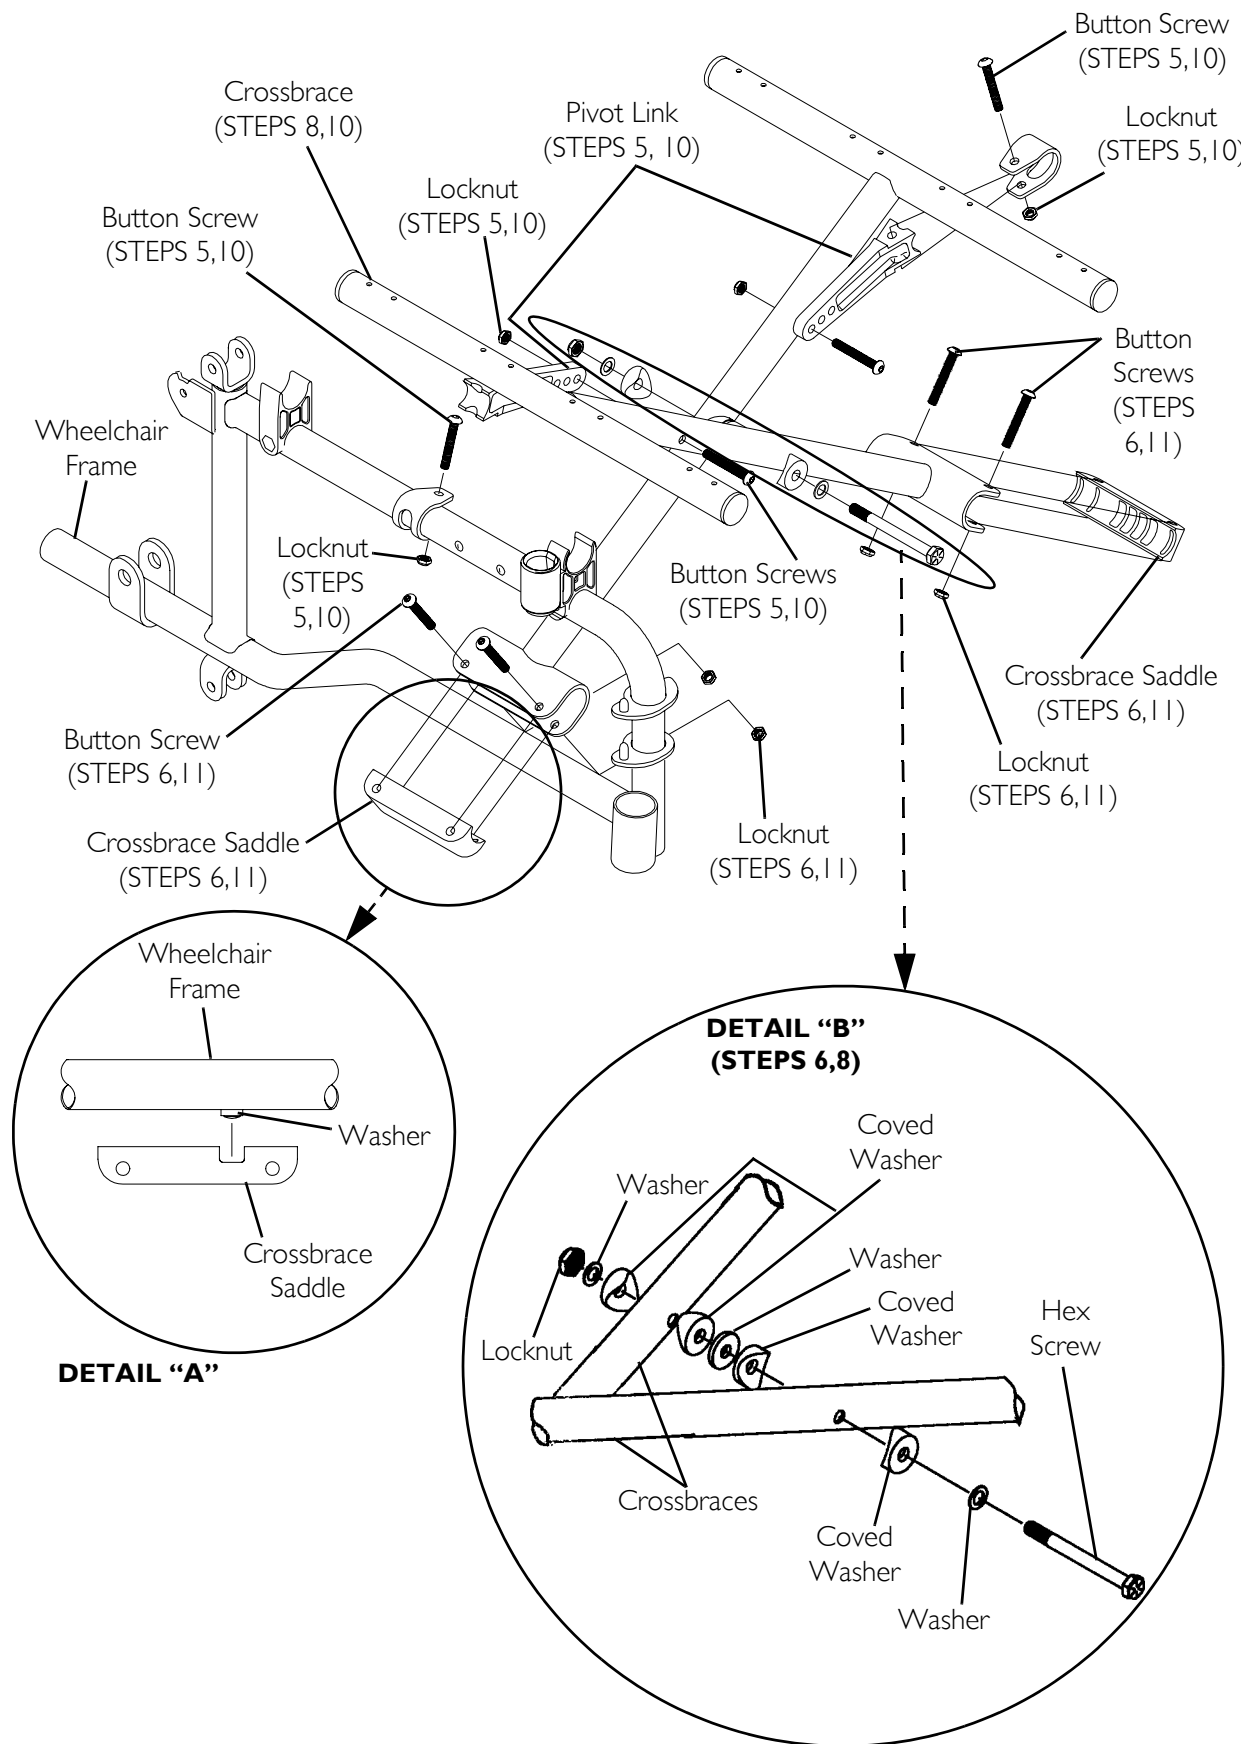

FIGURE 7.10 Adjusting Seat Width
NOTE: For this procedure, refer to FIGURE 7.10 on page 73.
5. Remove the button screws and locknuts that secure the two (2) pivot links to the wheelchair frame and crossbraces.
6. Remove the two (2) button screws, locknuts and crossbrace saddle that secures the bottom of the crossbrace to the wheelchair frame. Repeat for other crossbrace.
7. Remove the hex screw, coved washers, washers and locknut that secure the two (2) crossbraces together. See Detail "B" of FIGURE 7.10.
NOTE: Make note of the orientation of the coved washers, washers and locknut for assembling the new crossbraces. See Detail "B" of FIGURE 7.10.
8. Assemble the two (2) new crossbraces with the existing hex screw, coved washers, washers and locknut. Securely tighten. Refer to Detail "B" of FIGURE 7.10 for hardware orientation.
NOTE: Position crossbrace saddle on wheelchair frame using the washer on the underside of the wheelchair frame as a reference. See Detail "A" of FIGURE 7.10 for proper positioning of the crossbrace saddle.